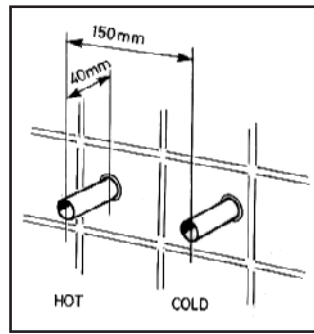

Fig.4. Rear Entry
- If the supply pipes are to enter the unit from the rear they must be at 150mm centres with hot on the left and cold on the right, with the length of pipe protruding out from the finished tiled surface at 40mm, please refer to Fig 4 Rear Entry.